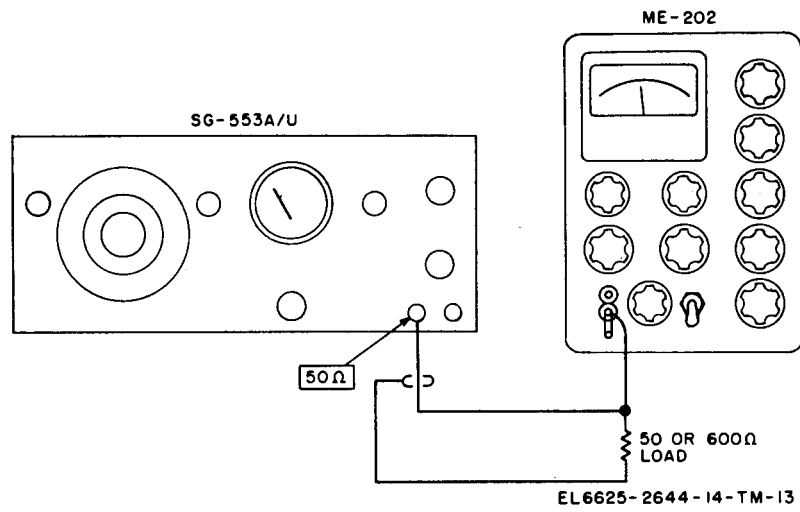

Figure 7-2. Output power, test setup.
- b. **Test Connections and Conditions.** Terminate the 50 ohms output using Da-471/U and interconnect the equipment as shown in figure 7-2.